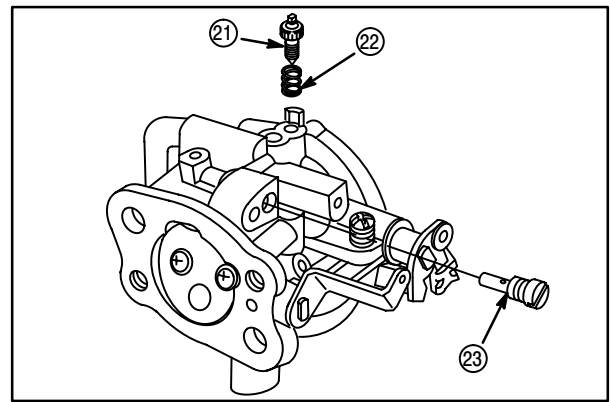

Fig. 55
14. Install pilot jet (23), **Fig. 55**.
15. Install idle mixture screw (21) and spring (22).